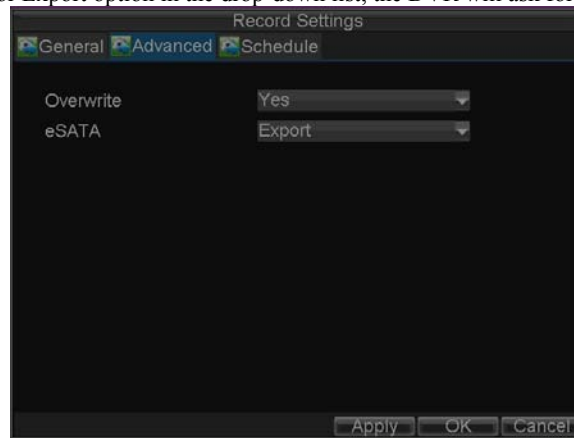

Figure 9. E-SATA Property Settings
2. Click Advanced tab, it will take you to the e-SATA property configuration, as shown in Figure 9, select For Export option in the drop-down list, the DVR will ask for reboot to take effect.